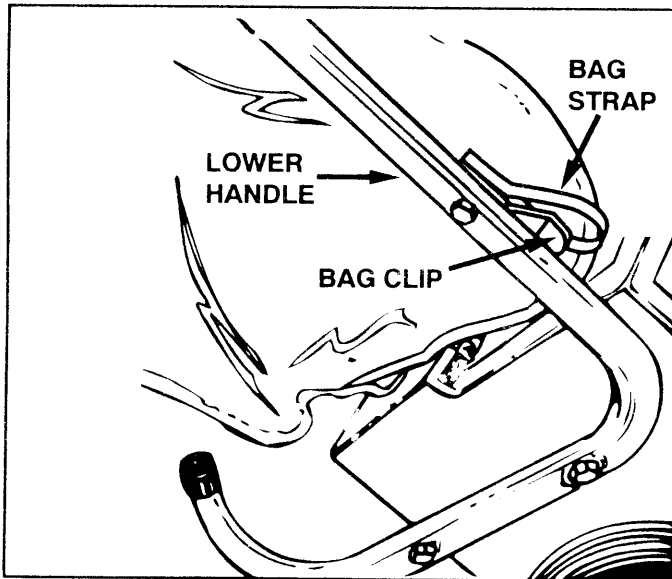

FIGURE 10
- Hook the elastic straps on the bag flaps under the bag rod clips on the lower handle tubes as shown in figure 10.